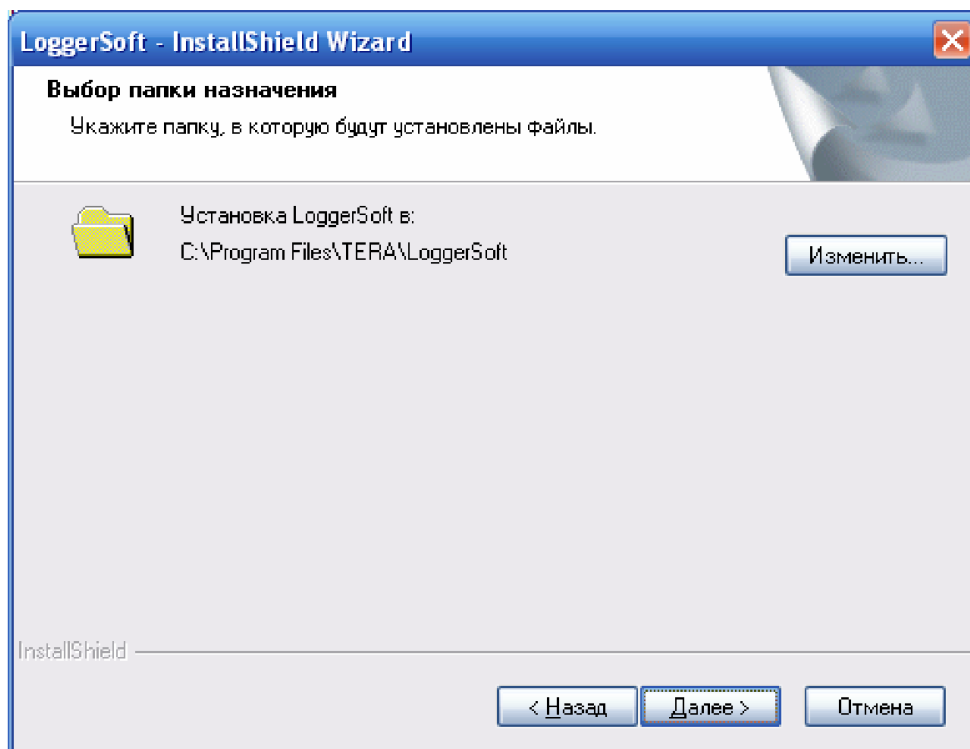

Figure 20. Installing LoggerSoft - Step 2.
Step 2 (Figure 20) - selecting the destination folder. By default, the installation will be done on the C: drive in the C:\Program Files\TERA\LoggerSoft folder. In most cases, you don't need to change the destination folder, but if you still want to do it, click the “Change...” button. To continue, click the “Next” button.